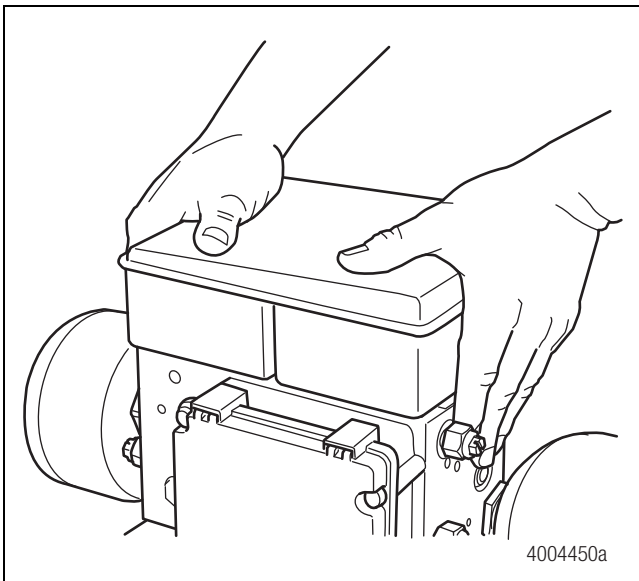

Figure 4.13
6. Install the new reservoir by pressing it carefully and completely into the grommets in the ports. Figure 4.13.